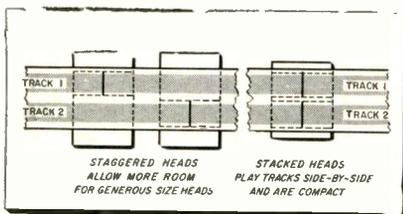
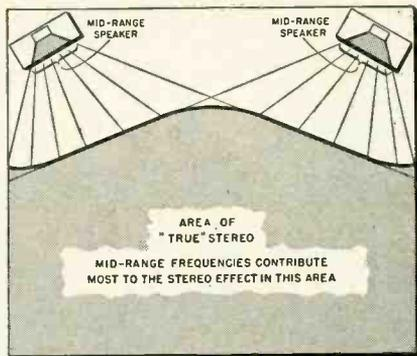

Fig. 1—Staggered and stacked heads as used in tape recorders. Some machines have both.
Fig. 2—Separate speaker systems are more desirable particularly for larger listening areas.
The signal A+B is fine for monophonic listening, even A-B may convey enough information to the inexperienced ear, but A+B and A-B as such do not as yet have any significance so far as stereo is concerned. Something else must happen before the right and left sense is restored. This is readily accomplished at the receiver end as shown in Fig. 1. By adding a portion of each signal to each stereo channel amplifier, but once again changing the phase of one signal in one channel, the righthand speaker will
Stereo presented a problem of how to arrange the two heads. In the early days materials and production techniques necessitated a fairly bulky head to get the best quality which led to the use of staggered heads. Because of tape stretch and other mechanical tolerances, it was obviously more logical to have both tracks run side-by-side, in time as well as place to avoid phasing problems. So another group preferred stacked heads. Both types are shown in Fig. 1. At present the stacked group seems to have had the best foresight. Techniques for making heads has improved to the point where just as good quality can be
To keep pace with the competition from the new stereo discs, to make the use of tape more economical, and to further the art, the tape engineers have been working on quarter track tape for stereo. Before, there were two tracks on a $\frac{1}{4}$ " tape, which could be used separately for monophonic channels or together for stereo. The four channel tape shown in Fig. 2 will accommodate two separate two-channel stereo programs
Fig. 2—Progressive development from the original full-track tape to half-track, and now to the new quarter-track, which can be played stereophonically in both directions.
Fig. 1—Two speakers in one enclosure, angled away from each other can create pleasing stereo effects even when the listener is not seated in the true stereo area.
- A good general rule to use as a starting point is that the smaller living room, up to 12 feet by 14 feet, can be served by two enclosures or a single enclosure type of stereophonic speaker system, with the speakers sufficiently separated and pointing outwards as shown in Fig. 1. For larger rooms it is better to arrange two separate enclosures and their speakers along the shorter wall of the room as shown in Fig. 2. While corner placement is desirable, it isn't absolutely necessary. The shaded portion indicates the so called true stereo listening area. The direction or angle of the speakers is also important. Generally, the high frequencies should be directed down the sides of the room, and perhaps a bit toward its adjacent side wall. This helps to get the higher frequencies into portions of the room where the true stereo effect is not realized, but will nevertheless help to create a pleasing stereo illusion. Angling the woofers so that it covers the central listening area offers the
were present, the stereo effect would only be achieved in the shaded areas in Figs. 1 & 2. But, still other effects contribute to the desired stereo illusion, much more than many people seem to realize. The distribution of the high frequencies, those above 1,500 cycles, can help considerably.
This can be demonstrated by the arrangement shown in Fig. 1. The stereo effect in this case is obtained by beaming the high frequencies from each channel directly at the adjacent side wall. Thus one group of high frequencies is coming toward the listener seated off to one side, while the other group of high frequencies is directed away. This give an overall effect, at positions off-center, very similar to sitting at one side of a concert hall. By this means a very real sense of perspective is retained even though the true stereo effect which is dependent principally upon the mid-range frequencies is lost when not in the center of the room. The general effect of a speaker system of this type in a smaller room, with a reasonable degree of furnishing, can be quite pleasing.